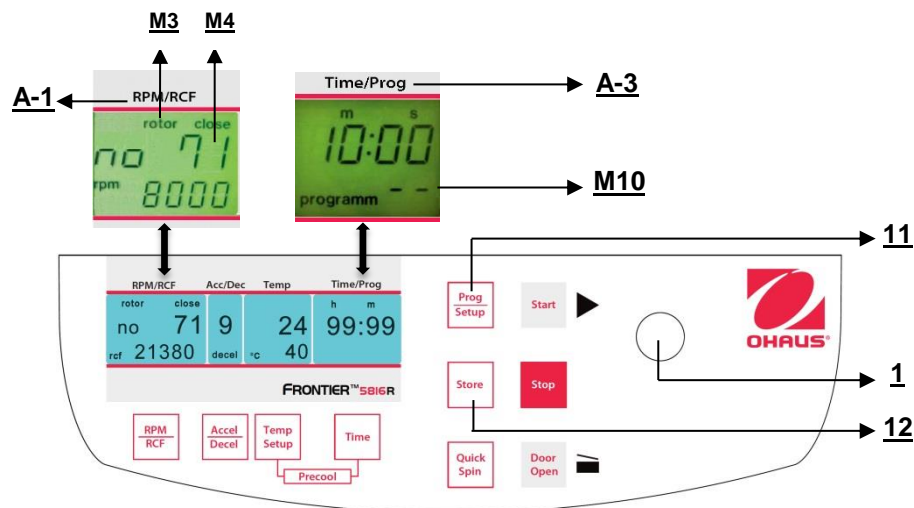

Figure. 25
To recall stored programs press the key **"Prog/Setup"** (11) (refer to figure 25) while the lid is already closed. Inside the display **"Time/Prog"** (A-3), **"programm --"** (M10) appears. The desired program number can be pre-selected with the adjusting knob (1).
To leave the program mode just press the key **"Prog/Setup"** (11) (refer to figure 25). Then inside the display **"Time/Prog"** the word **"programm"** appears.